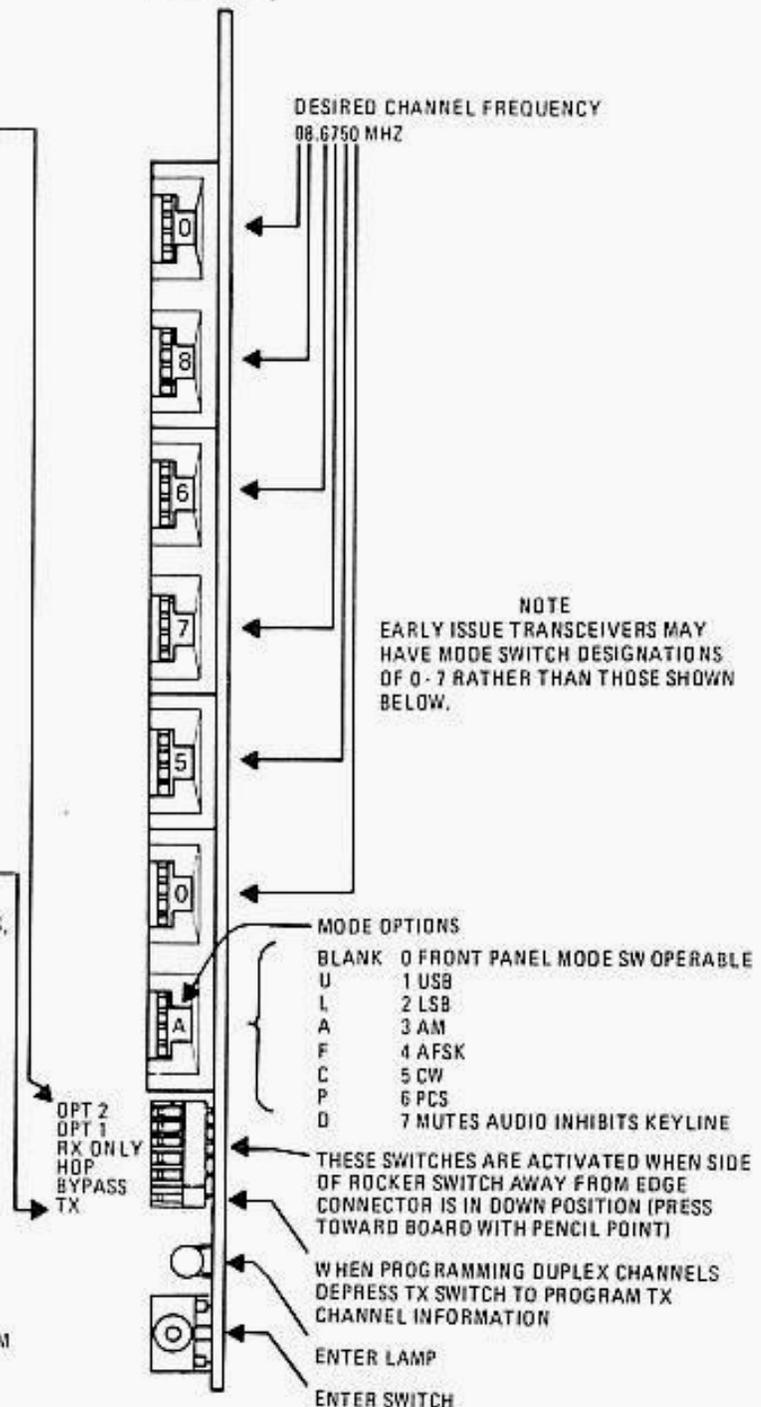

Figure 2-11. RF-230 Programming Detail
For the RF-230, this is a simple, straight-forward process as shown in figure 2-11. RF-231 programming is somewhat more involved, but again, is a relatively simple straight-forward process as shown in figure 2-13.
Programming PC Boards (1A1A7/1A1A8) contain jumper options to select simplex or duplex operation for each programming board. If simplex operation is desired for the group of channels controlled by any given board, install the simplex select programming jumper as shown in figure 4 of section 1A1A7/1A1A8, and program channels accommodated by the board in question as shown in figure 2-11.
- c. Select desired operating mode and special instructions (see figure 2-11).
- g. Depress the TX switch on the special instruction switch (see figure 2-11 and again depress Enter Switch until Enter Lamp illuminates - when lamp extinguishes, transmit channel is programmed.
- h. Continue in this manner, programming each of the 16 duplex channels available on the 1A1A7 board. Select the channel to be programmed, adjust program board switches for the desired receive condition setup, and enter the information in the associated memory address by pressing the enter button as described in steps "d" and "e". With the receive condition written-in to the associated memory address, change the program board switch setup to reflect the desired transmit mode condition - depress the TX switch on the special instruction switch (see figure 2-11), and press the enter button as described in steps "d" and "e". By programming in this manner, the 32 memory locations available on 1A1A7 would be utilized as shown in table 2-1.